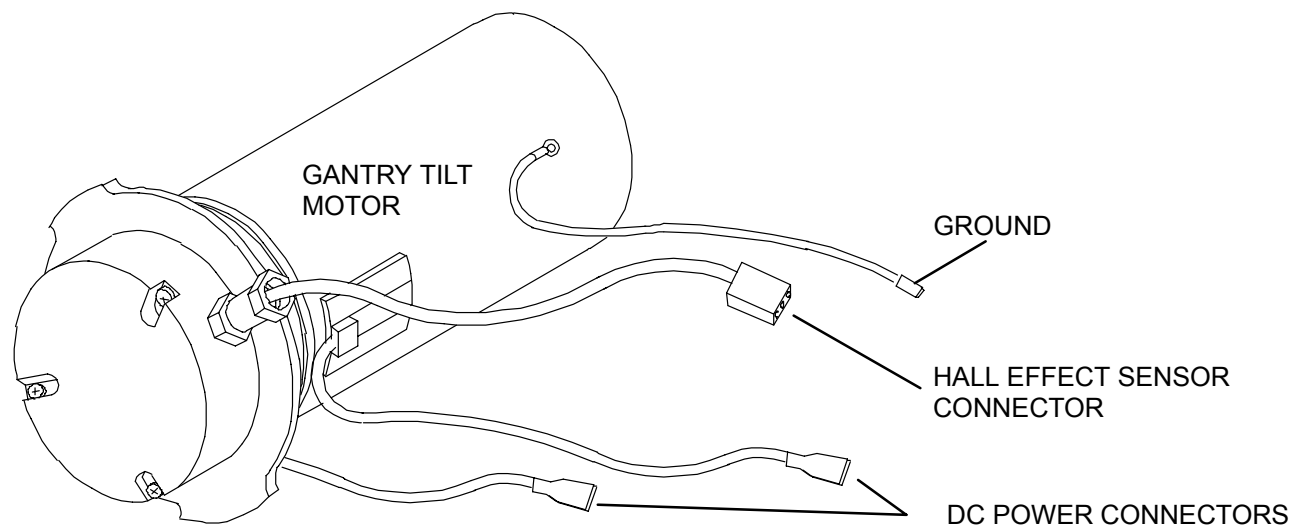

FIGURE 296 GANTRY TILT MOTOR
3. Disconnect the Speed Sensor from the operating Actuator. Refer to Figure 296.